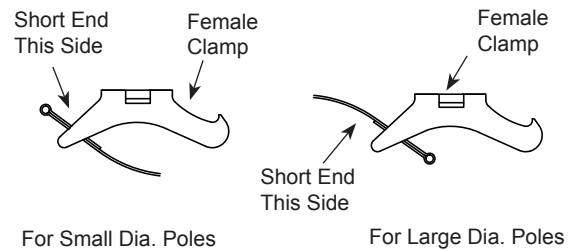
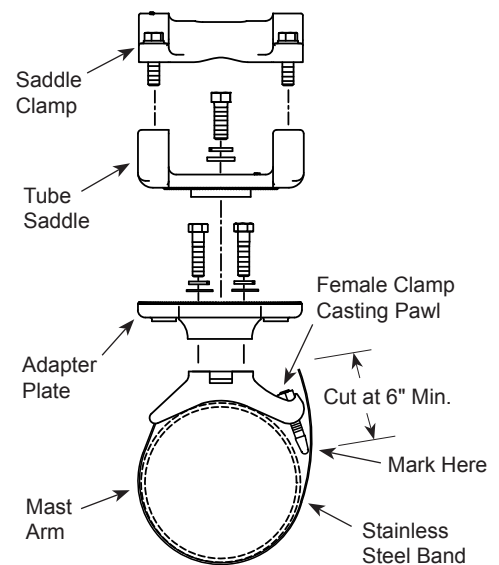

Figure 1
Figure 2
**For less than 4" Diameter Poles:** Insert the band from the top of the casting (Figure 1)
**For 4" and larger Diameter Poles:** Insert the band from the bottom of the casting (Figure 1)
2. Thread the bands through the clamp as shown in Figure 1 and place the female clamp on top of the mast arm. (Figure 2)
3. Place a clamp screw assembly in one of the pawls of the female clamp body with the hex nut flush with the end of the clamp screw threads. (Figure 2)
5. Mark the band at the point it crosses the clamp screw head and cut the band 6" past the mark. (Figure 2)